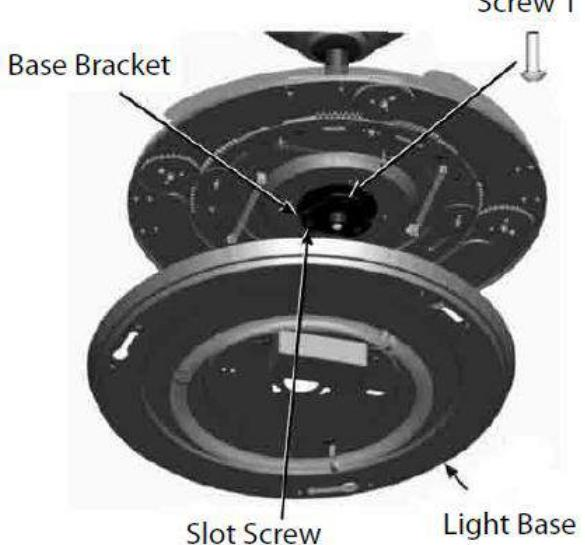

Figure 5
1. Loose the screw (1-Fig.5, arrow mark) from base bracket. Align two slot screws with the keyhole slots of light base.